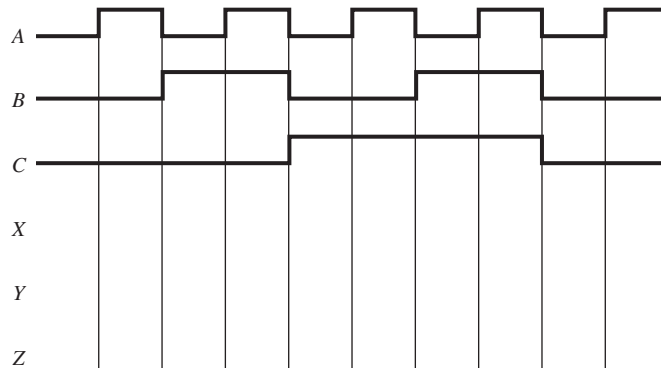

Figure P5-28
- 5-28.** Complete the timing diagram in Figure P5-28 for the following simplified Boolean equations.